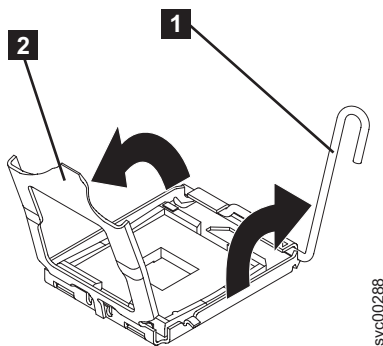

Figure 255. The microprocessor release lever and bracket frame fully opened
4. Open the microprocessor release lever (**1** in Figure 255) to the fully open position.
5. Open the microprocessor bracket frame (**2** in Figure 255).